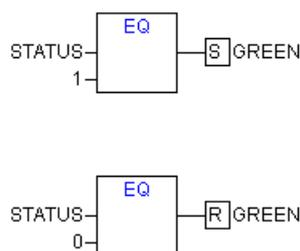

Figure 9-1-3 Set and Reset
- A grid with Set Output is displayed with [S], and a grid with Reset Output is displayed with [R], as shown in figure 9-1-3. An Output Set is set to TRUE, if the grid belonging to it returns TRUE. The output now maintains this value, even if the grid jumps back to FALSE. An Output Reset is set to FALSE, if the grid belonging to it returns FALSE. The output maintains its value, even if the grid jumps back to FALSE. With multiple executions of the command, the output will alternate between set, reset, and normal output.